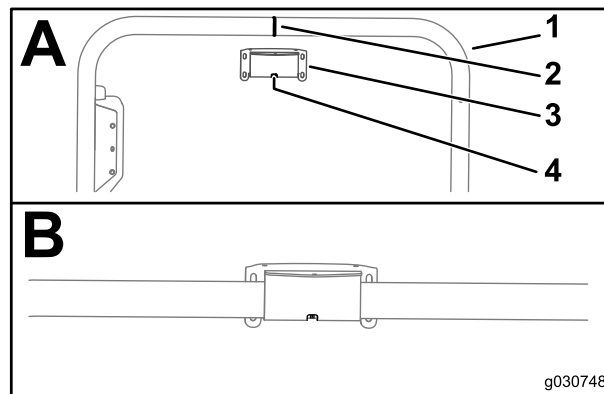

Figure 123
1. Align the slot that is in the center of the receiver mount with the weld seam at the centerline of the ROPS tube (Figure 123).